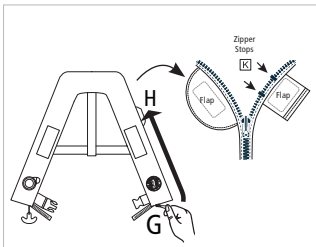
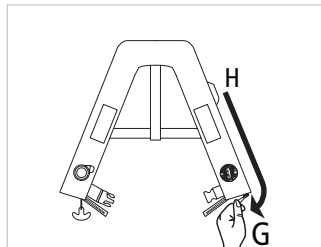

FIGURE 25 RESET 1: UP
FIGURE 26 RESET 1: DOWN
6. Mustang Survival uses advanced two-step zippers that can be reset. Reset 1: Pull the slider (G) to the Velcro™ tab (H) (Fig. 25). Close by pulling the slider (G) in the opposite direction to the end of the zipper (Fig. 26). Ensure that the inflatable cell does not get caught by the zipper when closing.